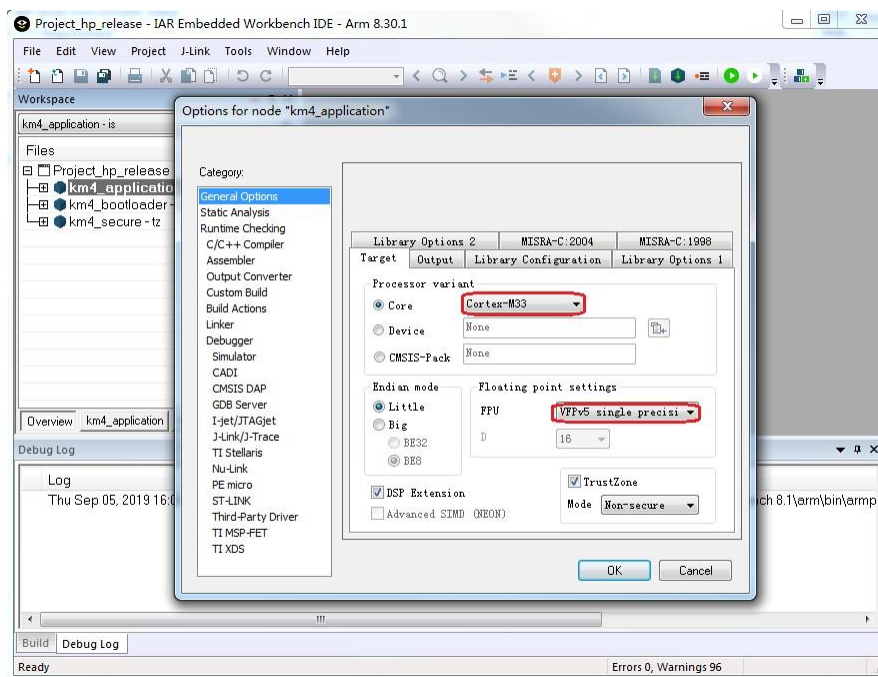

Fig 4-3 KM4 processor options
- (1) Open **amazon-freertos\projects\realtek\amebaD\IAR\aws_demos\Project_hp_release.eww**.
- (2) Refer to 4.3.1 and choose the build configurations for each project according to your application.
- (3) Click **Project > Options, General Options > Target > Processor Variant > Core**, verify the CPU configurations according to Fig 4-3.